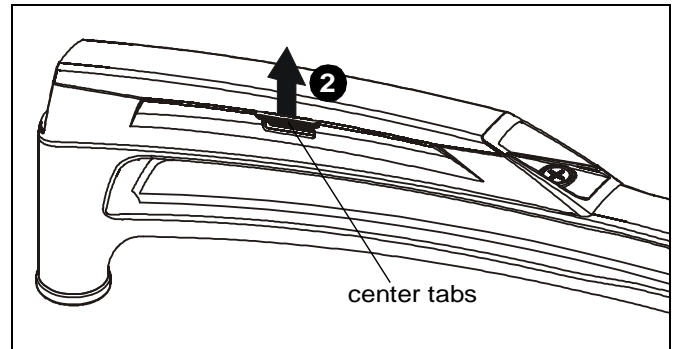

Figure 11
2. Open cable management covers on upper and lower swing arms by unhinging center tabs and lifting covers to the open position. (See Figure 11)